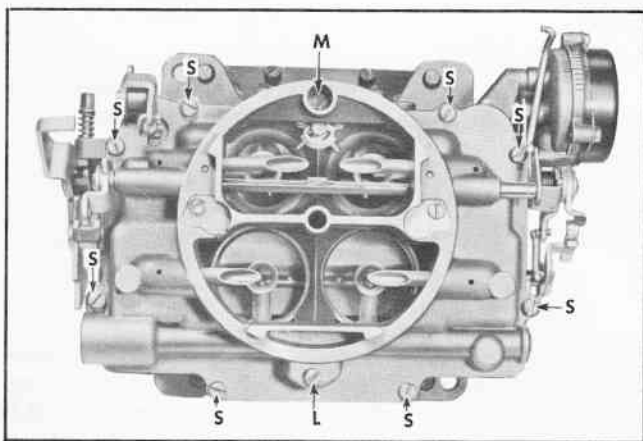

Fig. 24 Location of Air Horn Attaching Screws
2. Install air horn attaching screws (Fig. 24).